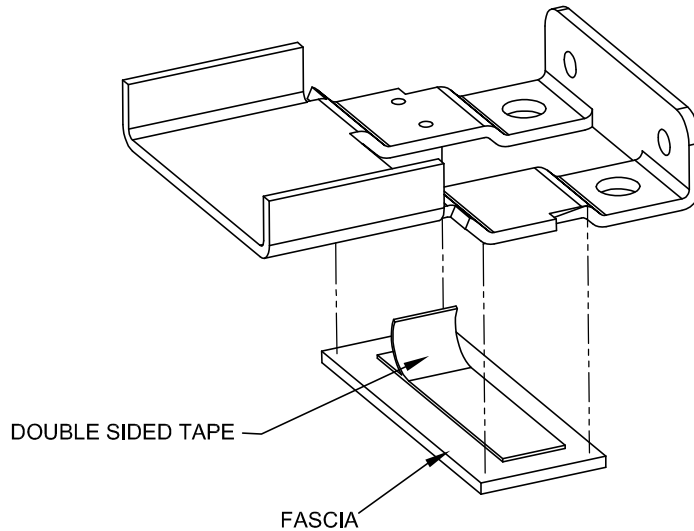

FIG. 28
- Attach the fascia with the adhesive tape as shown in Fig. 28.